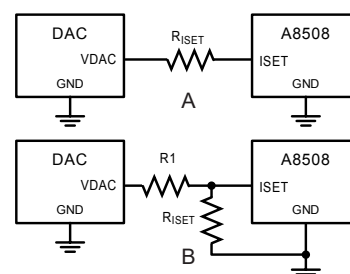

Figure 17. Typical application simplified diagram of voltage LED current control using a DAC to control LED current.
The A8508 can also be dimmed by using an external DAC or other voltage source applied either directly to the ground side of the R_{ISSET} resistor or through an external resistor to the ISET pin (see figure 17). The ISET current can be varied in the range between 34 µA and 130 µA.
- For a single-resistor configuration (panel A of figure 17), the ISET current is controlled by the following formula:
- For a dual-resistor configuration (panel B of figure 17), the ISET current is controlled by the following formula: